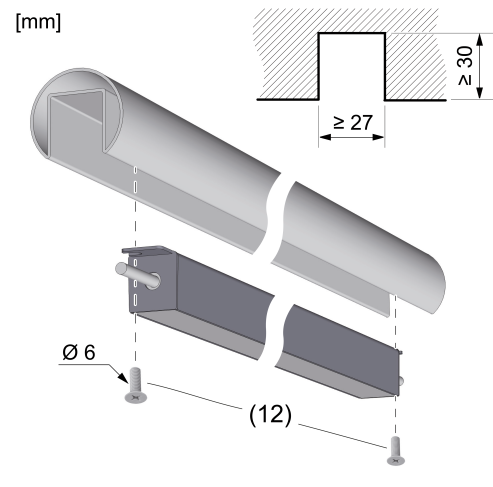

Figure 3: Mounting the luminaire
- In the mounting base material (e.g. handrail), prepare a groove according to drawing (Figure 3).
- Fasten LED luminaire with stainless steel screws (12) in the groove (Figure 3).